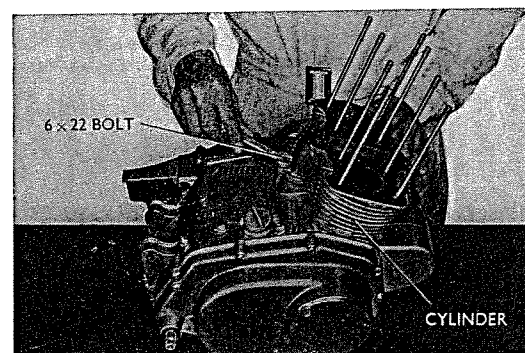

Fig. 3.38 Inspection cylinder
1. Remove the cylinder as in Section 3.2.1 and the 6×22 bolt retaining the cylinder; the cylinder can be removed from the stud bolt. (Refer to Fig. 3.38)